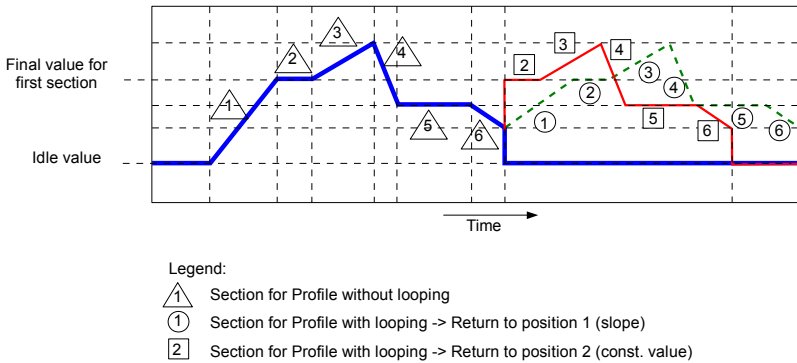

Fig. 7.104. Sample of Profile/timer with description of parameters
- if the section from which begins the next repeat Profile/timer is a **ramp**, then in the whole duration of this section is linear generating the output signal from the **final value** of the previous section to **final value** of this section. This is shown in **Fig. 7.104** (dashed line-run profile)
- if the section from which the next repeat of the Profile/timer begins is a constant value, then Profile signal quickly transient (0.1 seconds) from the **final value** of the previous section to a **constant value** in this section. This is shown in **Fig. 7.104** (profile guided fine line).